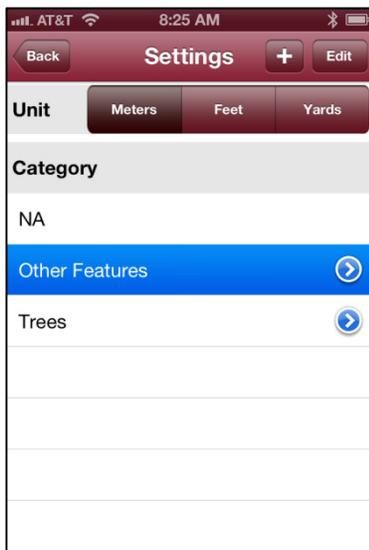

Figure 14
2. Tap the **Edit** button in the upper right-hand corner of the screen (Figure 14). Minus signs will appear next to each category in the list.